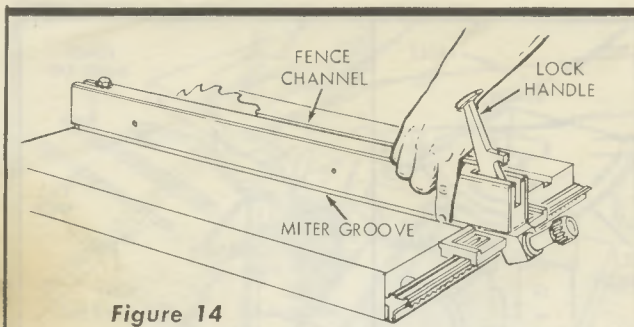
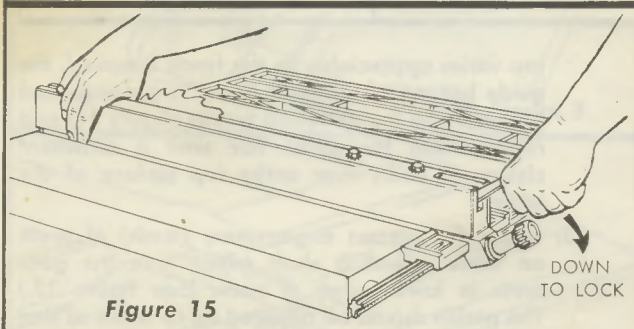

Figure 14
Figure 15
- (1) With the lock handle released (not latched), slide the fence on the saw table so the front end of the channel is flush with the side of one of the two miter grooves. (See figure 14.) This can be checked by using your fingers as shown to "feel" for correct alignment. Shift the rear of the fence to the right or left slightly, causing fence not to be square with the front edge of the table, nor parallel to the miter groove.
- (2) Push down on the lock handle carefully (do not force) while watching the rear of the fence for its correcting action.
- (3) The lock handle should lock all the way down (figure 15), the rear of the fence should move to correct itself, and do so parallel (flush) with the miter groove in saw table. Alignment may be checked with the forefingers to determine if the fence is flush with the side of miter groove, as shown in figure 14.
- (4) If the lock handle responded as described above, and the fence aligned itself with the table groove at both ends, the fence is properly adjusted and no further attention is necessary. If not, perform the following adjustment routine.
- (5) Raise the lock handle, push the fence to one side (off square) at the rear. Then lock the fence with the lock handle, while watching to make sure it "corrects" itself. Repeat this operation two or more times. The fence should "correct" itself each time it is locked.
- (6) Raise the lock handle and align the fence with the miter groove (at the front end of the groove) as shown in figure 14. Push the lock handle down.
- (7) Check for correct alignment with saw table